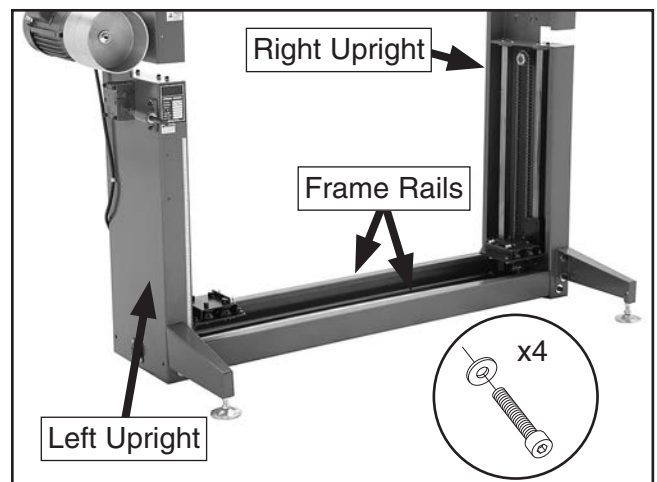

Figure 12. Third cross brace.
4. Lift the left upright so it stands vertically with the frame rails against the floor, and attach the right upright with the remaining (4) $\frac{3}{8}$ "-16 x $\frac{3}{4}$ " cap screws and (4) $\frac{3}{8}$ " flat washers (**Figure 12**).